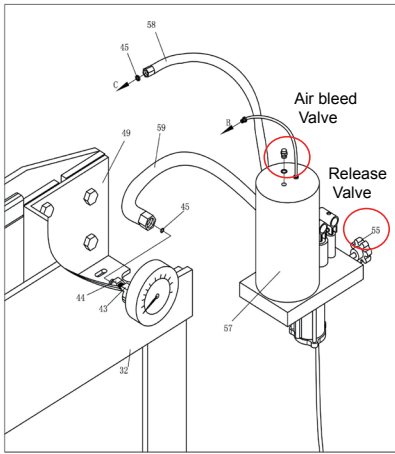
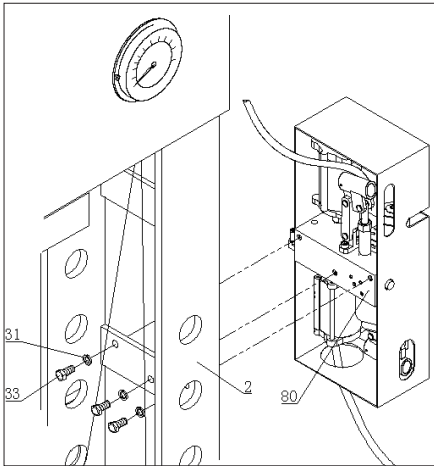

Fig.07
Fig.09
- Move the pump assy, Fig.07 ( CP86750 ), Fig.09 ( CP86100 ),to the outside of the post, use bolt and washer which dismantled just now to twist tight on the right connecting plate.
- Open the release valve, by turning it in an anti-clockwise direction, and open air bleed vavle, Fig.07.
- Close the release valves, Fig.07, by turning it clockwise until it is firmly closed.